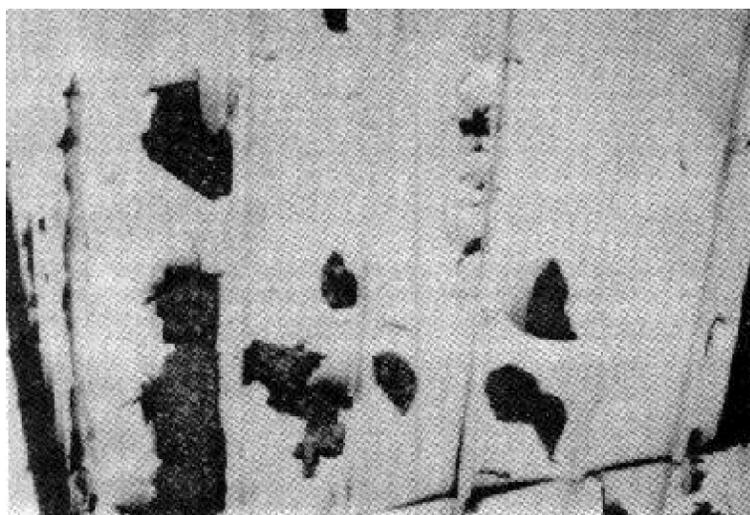

FIGURE 5-17
b. Galvanized Steel: Galvanized steel is steel sheet coated with zinc and then treated with chemicals to prevent white rust (a white deposit which forms when zinc is exposed in humid areas). The combination of the zinc metal and chemical treatment often creates problems of adhesion of applied coatings after exposure. If the incorrect paint system is used, extreme flaking and peeling may take place after a year or so of exposure, especially when wide temperature changes take place. (See Figure 5-17.) Allow galvanized steel to weather, if at all possible, and use appropriate primers. See Table 8-2, Chapter 8, and Appendix D-4, Table 16.